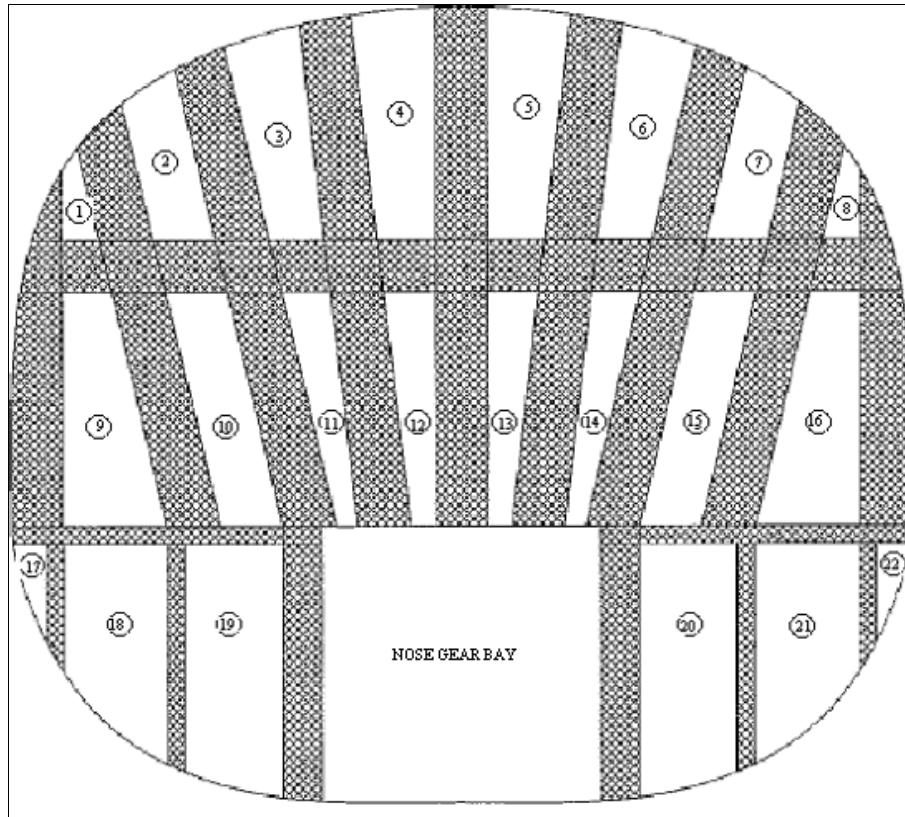

Figure C- 4: Typical Clear Bay Areas of Fwd Pressure Bulkhead (looking aft)
The twin engine ADAS+ uses a Raychem™ pressure bulkhead fitting for routing the harnesses into the aircraft. Depending on the aircraft and what equipment is installed you may or may not need a doubler (ADAS-D-059-1). Reference Figure C- 4 for typical clear bay areas numbered 1 through 22.
- ⇒ **No doubler is required if installing the feed through in bay 11, 12, 13, or 14. Any other clear bay indicated in Figure C- 4 requires the supplied doubler. If a doubler already exists on the bulkhead it may be used in place of the supplied doubler.**
- ❑ 010 Drill a 1.34" hole into the pressure bulkhead in bay 11, 12, 13, or 14 as specified in Figure C- 4 or any other bay if a doubler already exists.